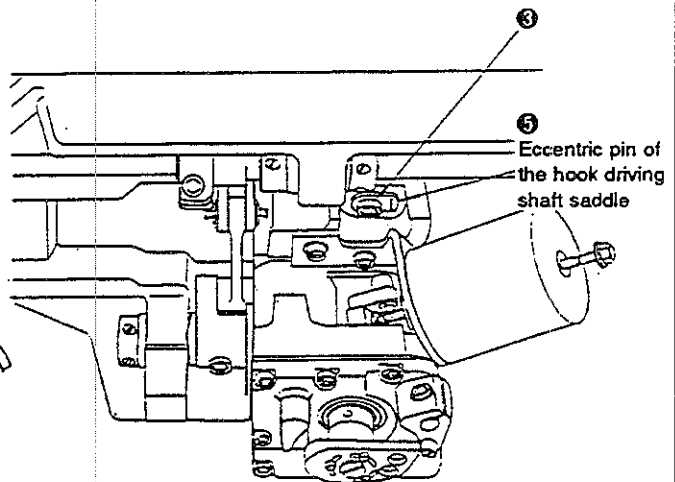

Fig. 5
<ol style="list-style-type: none"> 1. Remove the throat plate. 2. Set the stitch dial at "0" on the scale. 3. Loosen clamping screw ❶ in the hook driving shaft set collar. (Fig. 2) 4. Loosen attaching screws ❷ and ❸ in the hook driving shaft saddle. (Fig. 3) 5. Move the hook driving shaft saddle in the right or left to adjust the clearance provided between the needle and the blade point of hook to 0.02 to 0.1 mm (0.001" to 0.004"). (Fig. 1) 6. At this time, adjust the effective amount of the needle guard to 0.15 to 0.2 mm (0.006" to 0.008") by turning adjustment screw ❹. (Fig. 1) 7. Turn eccentric pin ❺ of the hook driving shaft saddle with a screwdriver to move the hook driving shaft saddle in the opposite direction of the operator (in the direction of arrow) until it will go no further. (Fig. 5) 8. Fix the hook driving shaft saddle holding it in the state described in step 7 by tightening screws ❸ and ❷ in the hook driving shaft saddle in the written order. (Fig. 5) 9. Confirm that the needle-to-hook timing is correct. If the timing is correct, tighten clamping screw ❶ in the hook driving shaft set collar. (Fig. 2) If not, adjust the timing between the needle and the hook properly. (Refer to "Timing between the needle and the hook" on page 15.) 	<p>☆ If the clearance between the needle and the blade point of hook is too large:</p> <ul style="list-style-type: none"> ○ Stitch skipping and improper threading may result. <p>☆ If the clearance between the needle and the blade point of hook is too small:</p> <ul style="list-style-type: none"> ○ The needle may interfere with the blade point of hook. As a result, the blade point of hook may be damaged and thread breakage may be caused. <p>At this time, confirm that clearances ❹, ❺, ❸ and ❷ in the hook driving shaft coupling are respectively adjusted to 2.5 ± 0.3 mm (0.098 ± 0.012"). If not, adjust the clearances properly.</p>